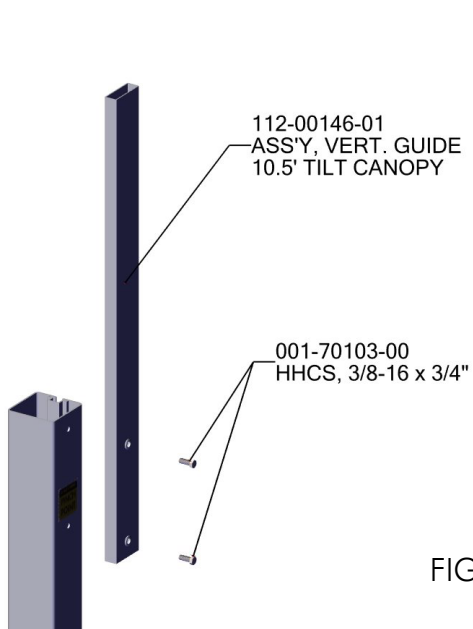

FIG. 1
-ASSEMBLE CANOPY VERTICAL GUIDES (FIG. 1).